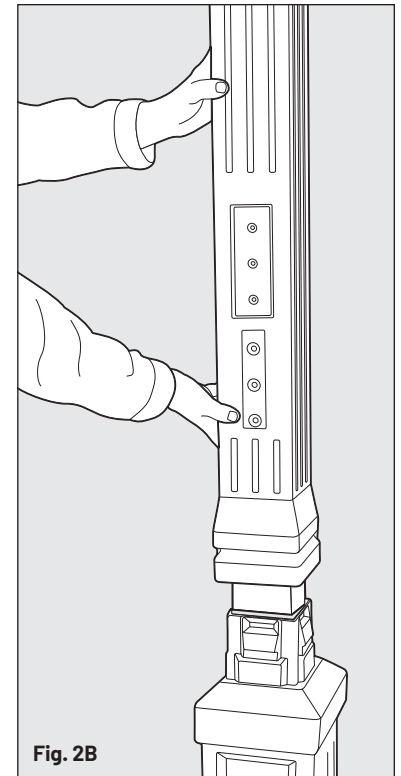

Fig. 2B
STEP 2 Slide the Lower Post Section over the wooden post. **NOTE:** there is not a "front" to this section, so it does not matter what side is facing the street. Secondly, slide the Upper Post Section over the wooden post. **NOTE:** make sure the side with the part / screw pattern (shown in Fig. 2B) is facing the street. Press the Upper Section onto the Lower Section until the two components snap together completely.